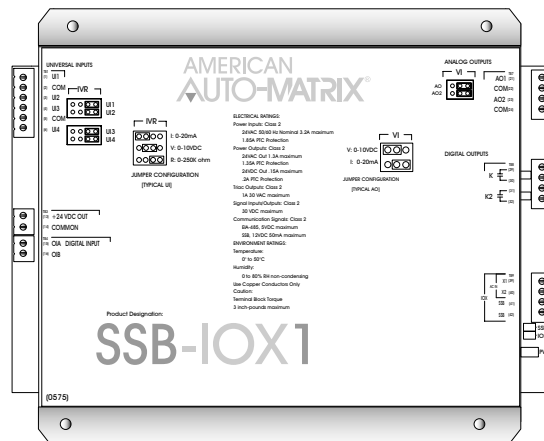

Figure 2-44: The SSB-IOX1
The SSB-IOX1, shown in Figure 2-44, is a STATbus module based on the same hardware as the GPC2 controller. It provides four (4) universal inputs, one (1) pulse input, two (2) analog outputs, and two (2) digital outputs.